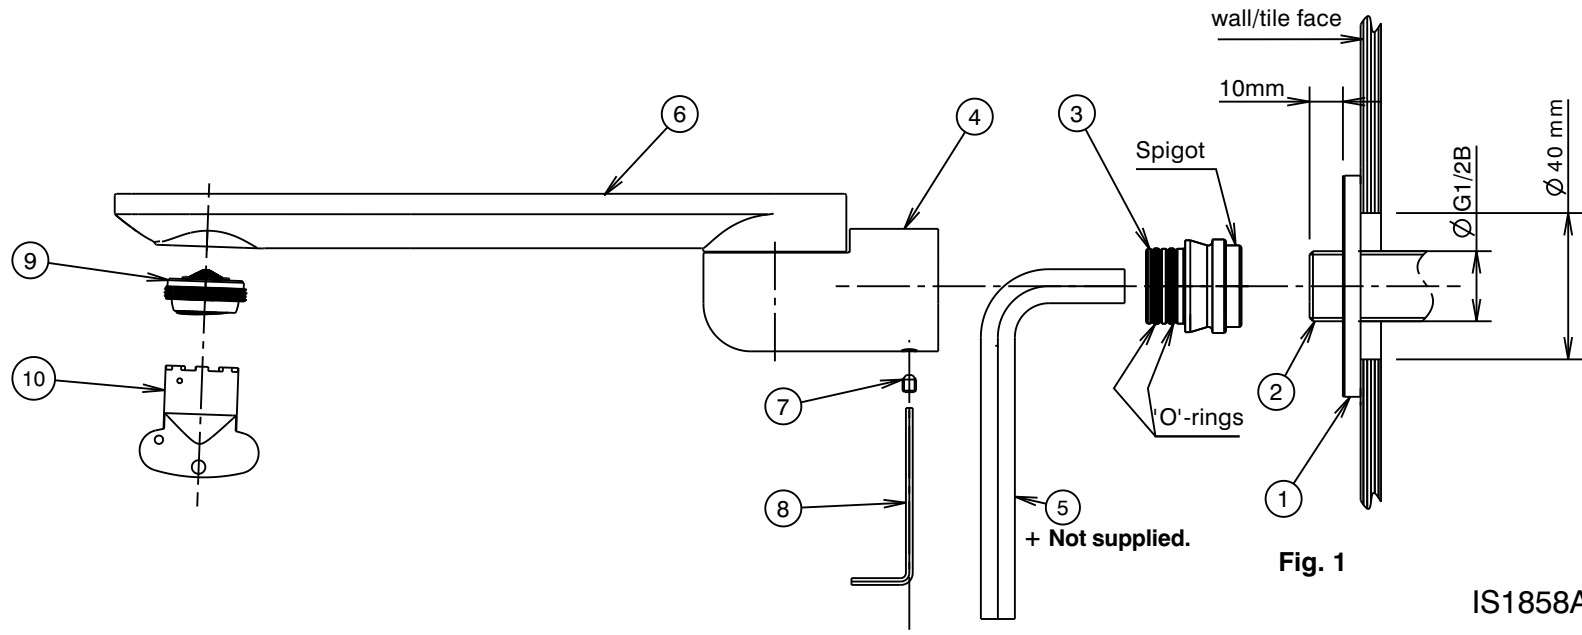

Fig. 1
- 1) Fit the cover plate (1) over threaded nipple (2) and check that the thread is the correct length, as shown (Fig.1). Cut to length if required ensuring end face is square. Apply thread tape to the thread.
- 2) Locate the cover plate (1) on the threaded nipple (2) by while keeping the top face horizontal and screw the spigot (3) onto the threaded tube (2) using a 10mm allen key (5) until the cover plate (1) is held securely against the wall/tile face. **DO NOT OVERTIGHTEN**. Apply suitable lubricant to 'O'Rings on adaptor (3).
- 3) Fit wall elbow(4) onto the spigot (3), then carefully push it firmly against the cover plate while tightening grub screws (7) using the 2mm allen key (8) provided after ensuring that the top face of the outlet is horizontal.